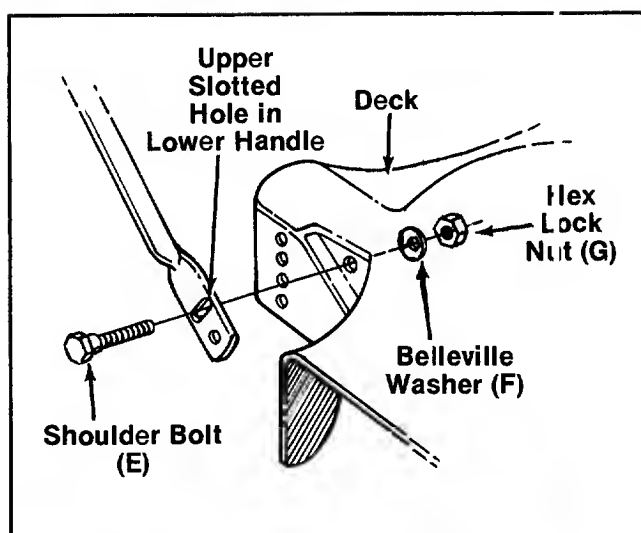

FIGURE 2.
- D (2) Cable Ties
- E (2) Shoulder Bolts 5/16-18 Thread
- F (2) Belleville Washers 5/16" I.D.
- G (2) Hex Lock Nuts 5/16-18 Thread
- H (1) Rope Guide Bolt
- I (1) Curved Head Carriage Bolt
- J (2) Lock Washers 5/16" I.D.
- K (2) Hex Nuts 5/16-18 Thread
3. Line up the upper slotted hole in the lower handle with the mounting hole on deck. Place shoulder bolt (E) through lower handle and deck. Place Belleville washer (F) on the shoulder bolt, with the cupped side of the washer against the deck. Secure with hex lock nut (G). See figure 2.